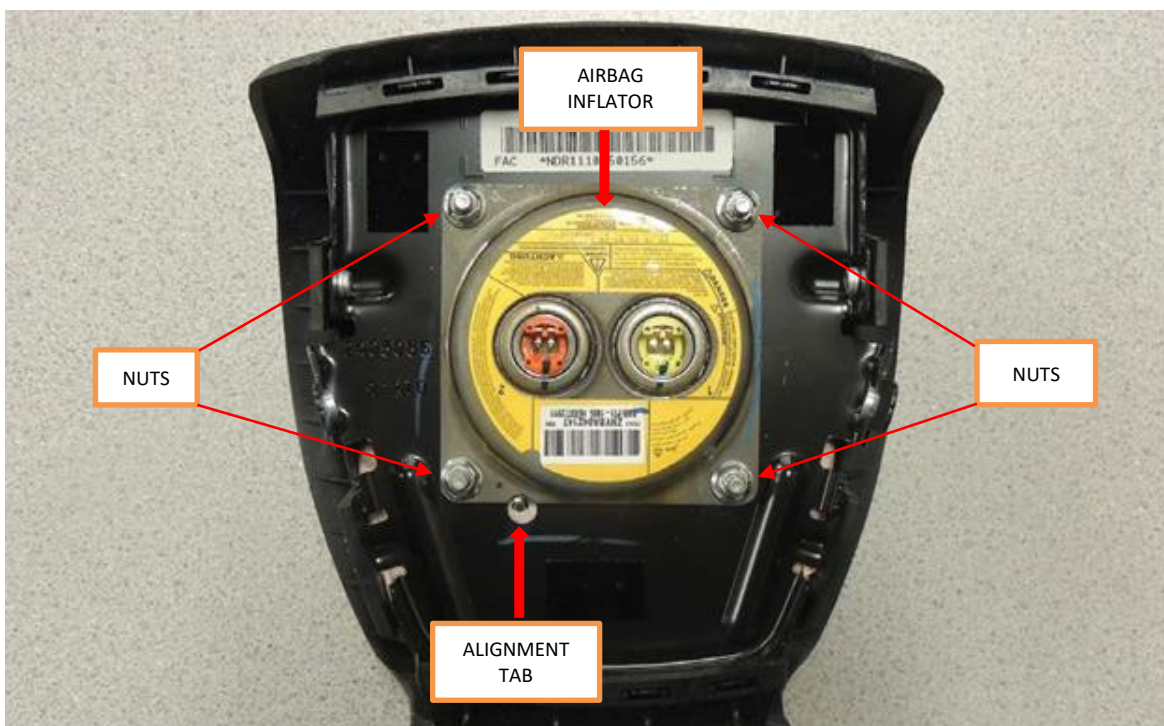

FIGURE 1
1. Remove and discard the 4 airbag inflator retaining nuts from the driver side airbag. See Figure 1. **Do not use any sort of Power Tool!**
- Remove the airbag inflator and set aside for return shipping. See Figure 1
Install the *new* inflator into the driver airbag. Verify the alignment tab on the airbag housing is aligned with the cut-out on the inflator. See Figure 1
4. Install 4 *new* airbag inflator nuts onto the driver airbag. See Figure 1. **Do not use any sort of power-tool to install these nuts under any circumstance.**